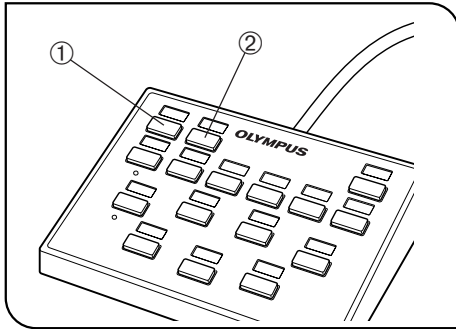

Fig. 1
(Fig. 1)
(Figs. 1 & 2)
- Press the BF button (① in Fig. 1) on the hand switch to select the reflected light brightfield path.